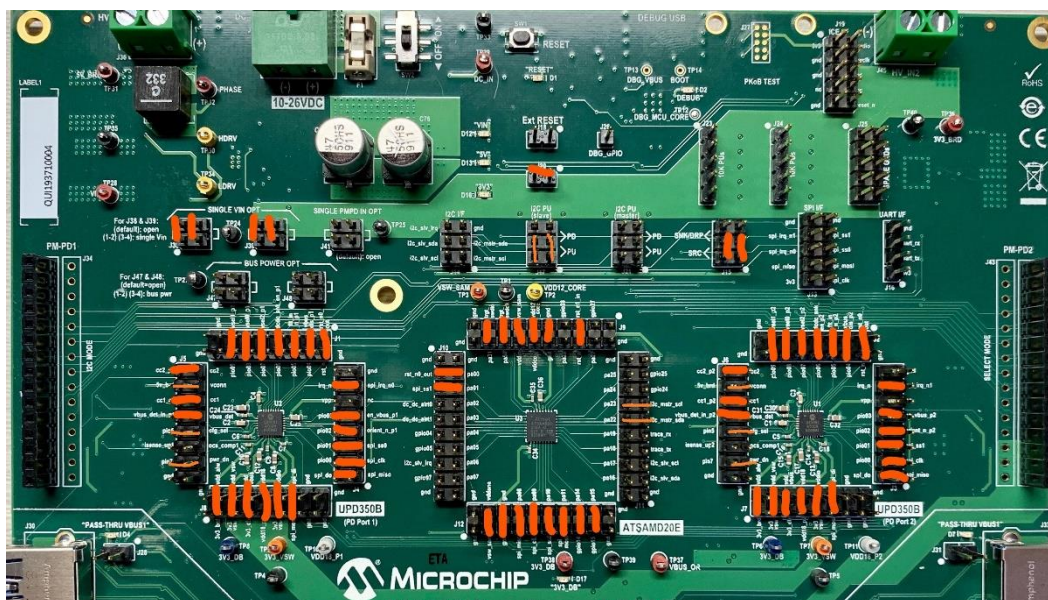

Figure 5.2 PSF-EVB with jumper connections highlighted
2. Ensure the following jumpers are connected in PSF-EVB before proceeding to next step. An image of PSF-EVB with all the required jumper connections highlighted is shown in Figure 5.2